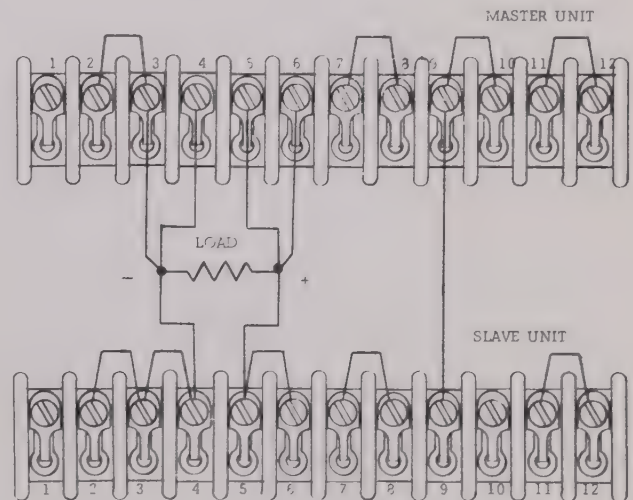

Figure 3-7. Parallel Operation
- a. Apply nominal input power to master unit (see Figure 3-7), adjust output voltage to desired load voltage and then set PWR switch to off.